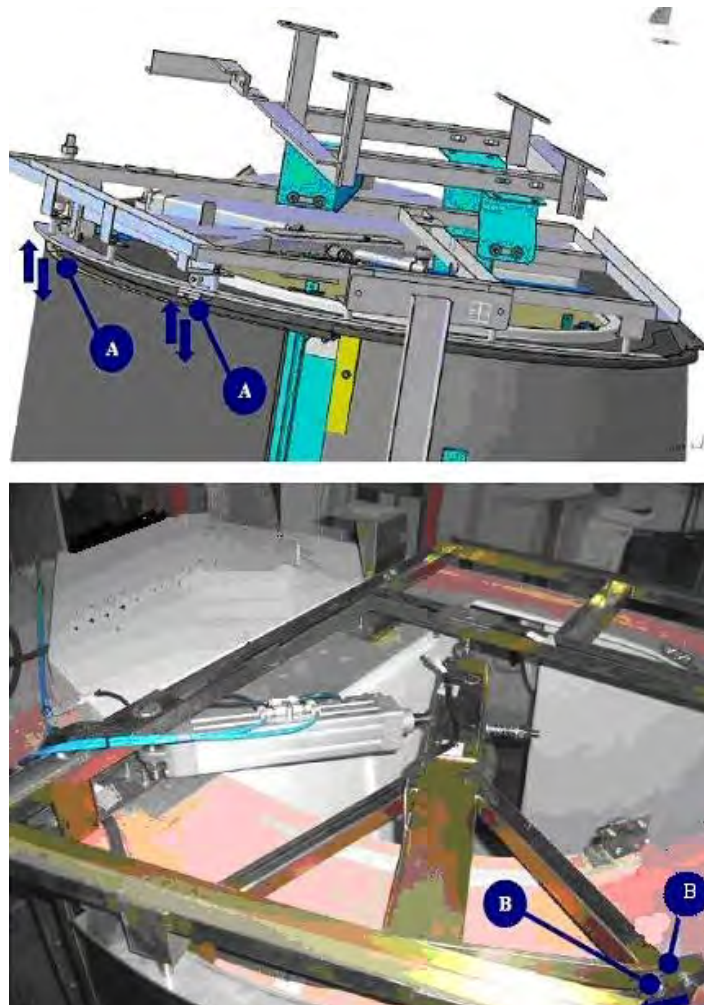

Figure 1: Door Leaf Adjustment
1. Adjust the vertical clearance of the door leaf to the floor step plate by using the vertical adjustment screws (see Figure 1). The adjustment screws are identified as item A on the figure.
3. Adjust the door close position and fully open dimension by using the screws identified as item B on Figure 1, as follows.
A5. The door leaf can be removed by removing the fasteners shown on Figure 1.